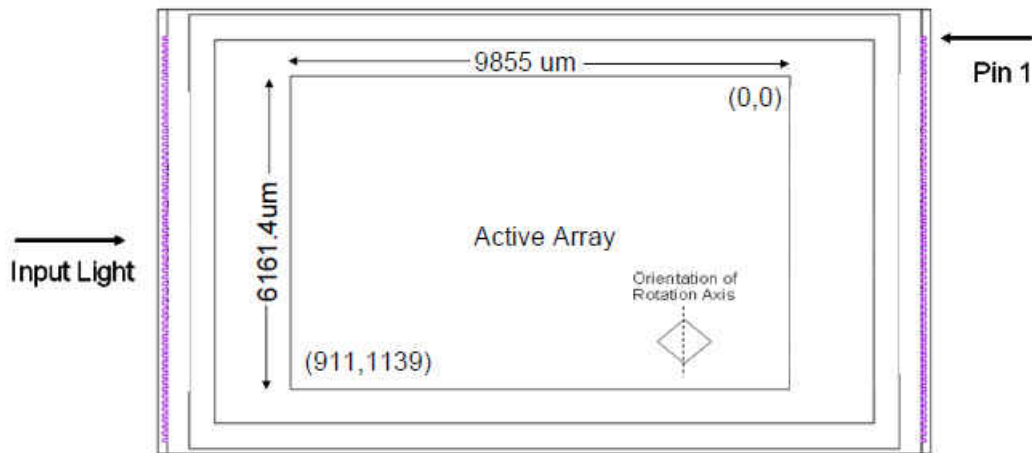

**Fig 7-3. System Interface Loads for FQD**
- (1) See and Fig 7-3 for diagrams.
- (2) See Mounting Concepts DLP4500FQD.